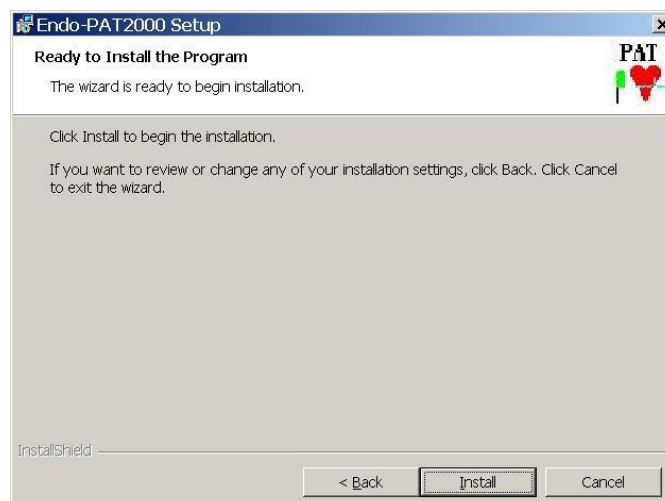

Figure 7 – Ready to install the program screen
6. Press “Install” to complete the installation process or “Back” to review or change any of your installation settings” (Figure 7).